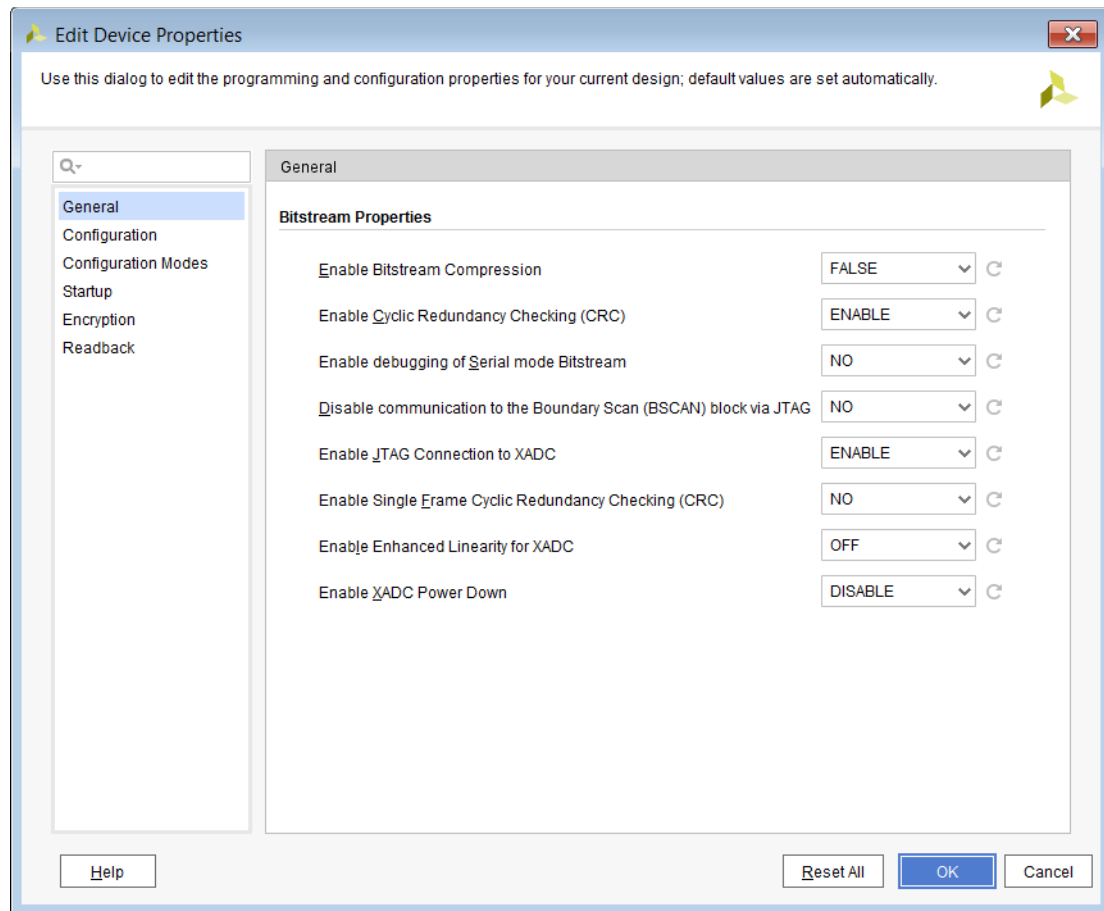

Figure 3-2: **Edit Device Properties**
2. In the **Edit Device Properties** dialog, select one of the categories in the left-hand column (see Figure 3-2).